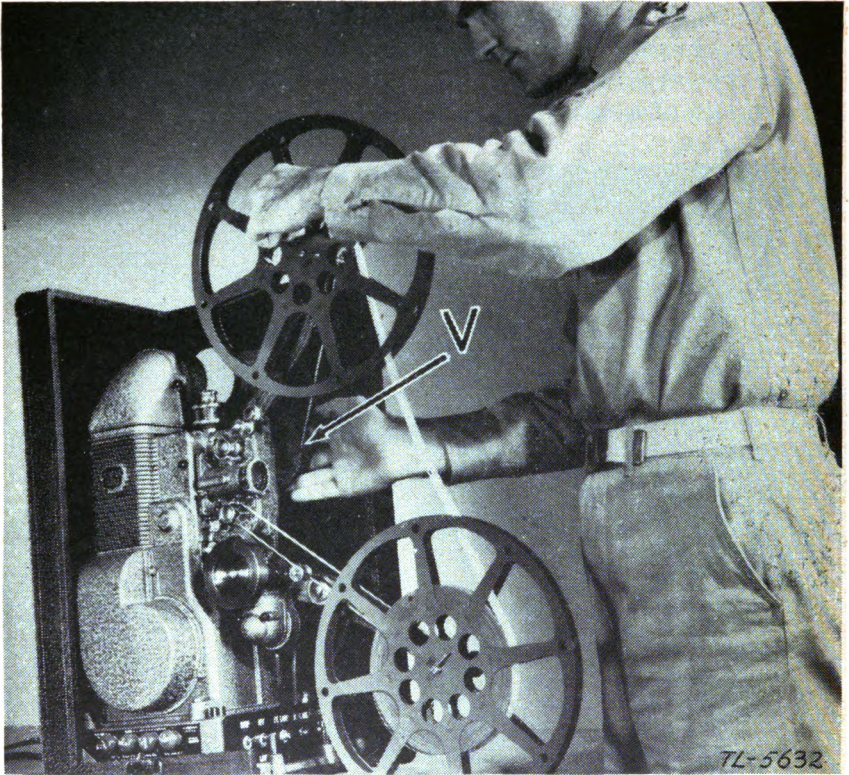

FIGURE 21.—Rewinding Phonofilm projector.
(2) *Phonofilm*.—The Phonofilm is rewound in exactly the same manner as the Ampro YA. (See fig. 21.) The rewind button *V* is located on the large pulley, and must be held in during the rewinding operation.